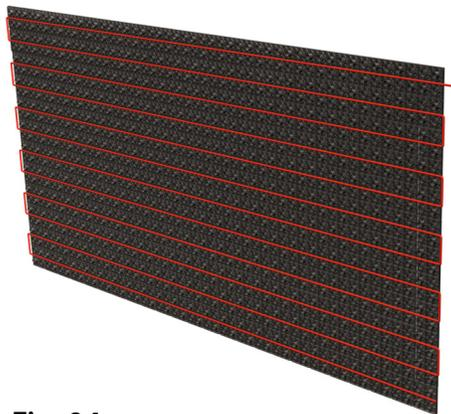
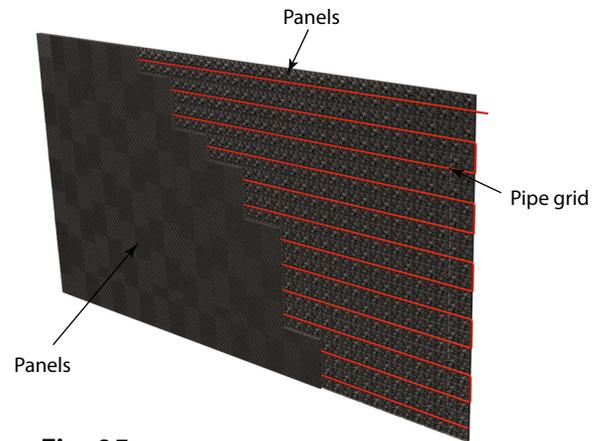
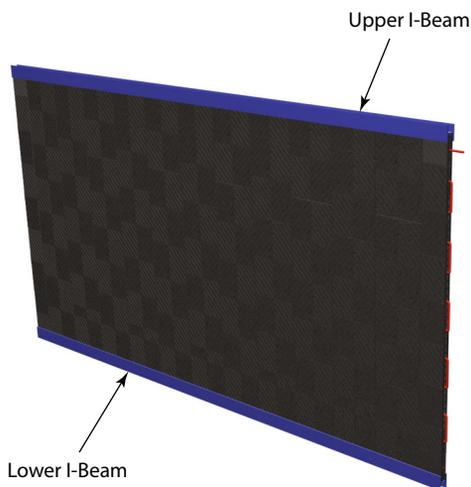
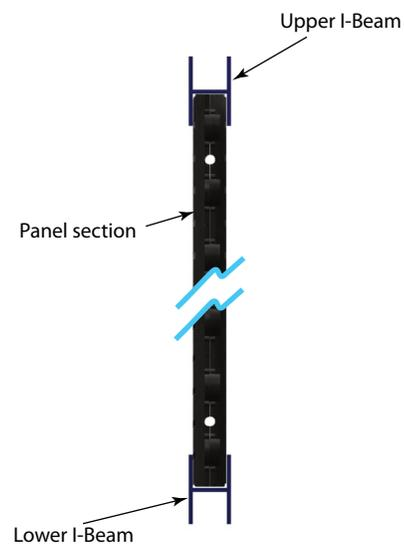

Fig. 04
Fig. 05
Fig. 06
Fig. 07
**Figure 04** shows the heating grid in relation to the first layer of panels. **Figure 05** shows the second layer of panels partially in place thus securely sandwiching the piping in between. **Figure 06** shows the upper and lower I-beams in place. The I-beams serve to add extra rigidity to the panel sections and make handling easier. **Figure 07** shows an end view of how the I-beams fit to the panels.